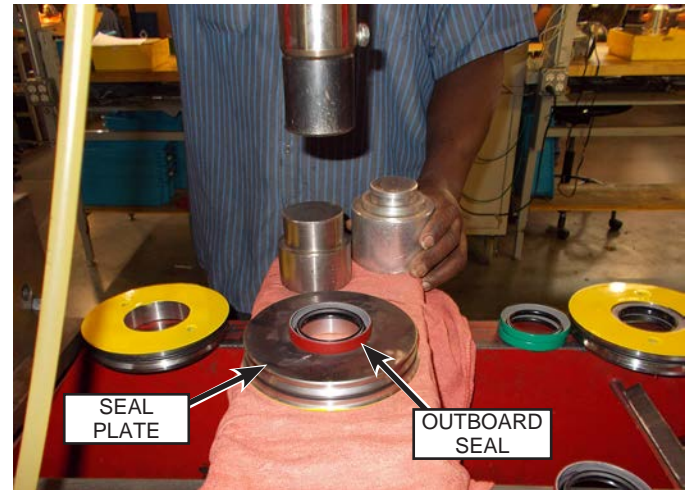

Fig. 127: Outboard Seal Installation
1. Place the seal plate in a hydraulic or arbor press with the inboard side facing up. Place the red outboard seal into position and orient the seal as shown in Fig. 127.